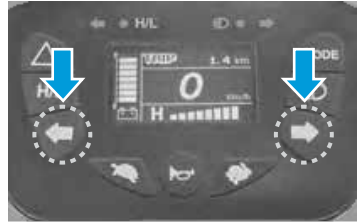

Figure 6
- Press right side to turn on right turning signal. (Figure 6)